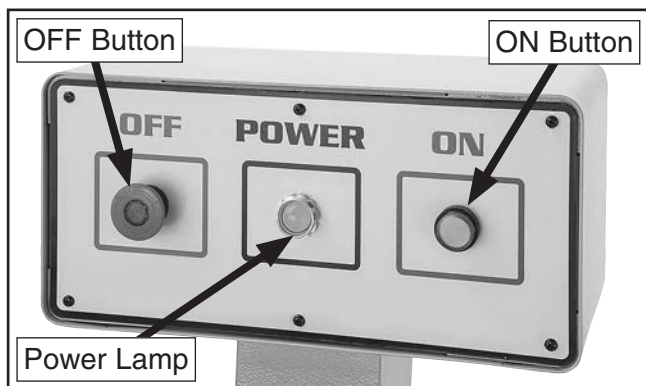

Figure 21. Control panel components.
2. Push OFF button (see **Figure 21**).
3. Connect machine to power source. Power lamp will illuminate (see **Figure 21**).